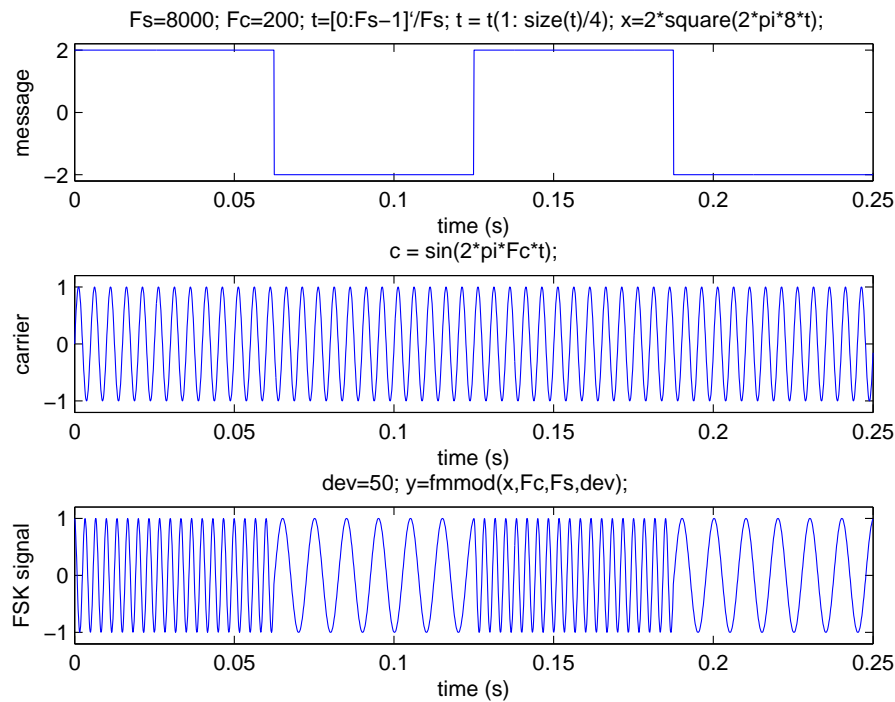

Figure 19:
When the message signal is binary, with two possible amplitudes, the FM signal would oscillate between two frequencies. The frequency of the FM signal that corresponds to logical-0s (or at low amplitude) is normally referred to as the *space frequency*, while that corresponds to logical-1s (or at high amplitude) is referred to as the *mark frequency*. The resultant FM signal, as shown in Figure 19, is called binary FSK or simply as FSK. As expected, FSK is more robust to noise and amplifier non-linearity, compared to Amplitude Shift Keying (ASK).
10. Try to obtain an output from the VCO that is similar to the FM signal shown in Figure 19. You may need to tweak the VCO module's Gain control.